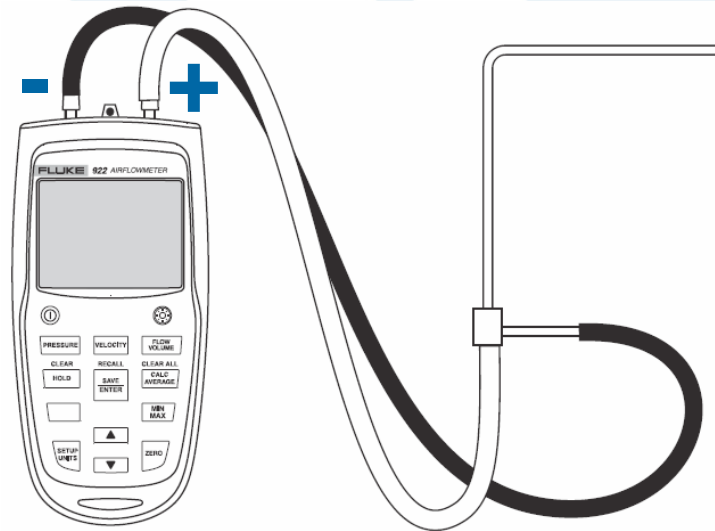

Figure 21 Digital Gauge and Pitot Tube Connections
2. Connect the hoses to the pitot tube and to the digital gauge. The “Input (+)” pressure port on the digital gauge connects to the yellow hose from the total pressure connection of the pitot tube. The “Ref (-)” pressure port on the digital gauge connects to the black hose from the static pressure connection of the pitot tube. See Figure 21.